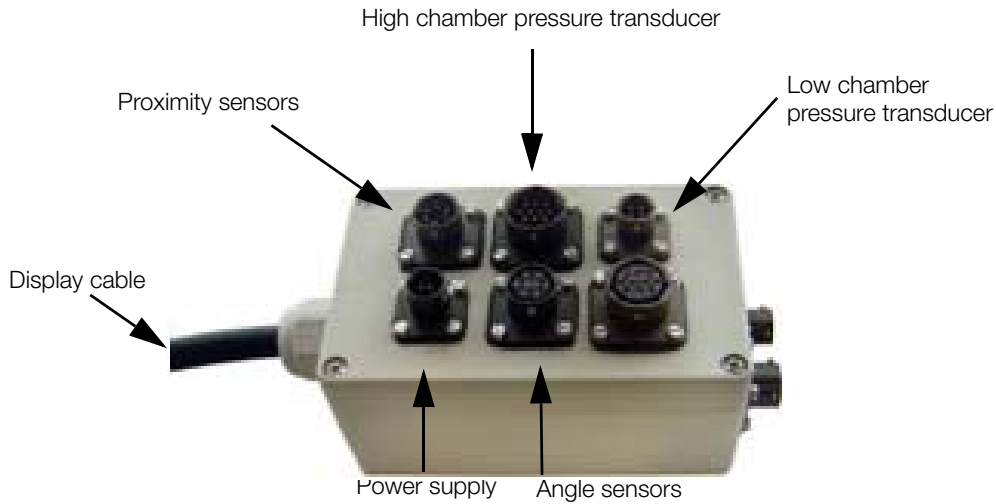

Figure 1-18. Junction Box Connections
1. Connect the remote control, pressure sensor wire, angle sensor wire, indicator cable, and power supply to the junction box's inputs, as shown in Figure 1-18.